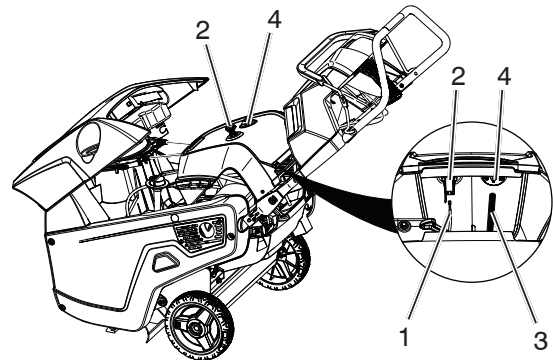

Figure 29
12. Unplug electrical wires on back of ignition switch (Figure 29).
21. Reattach primer bulb tube to primer bulb and electrical wires on back ignition switch of rear upper cover (Figure 29).